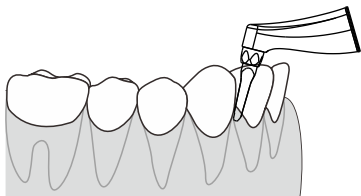

Figure 10 Periodontal sandblasting operation
- When using the device to perform normal periodontal scaling, it is recommended to use the nozzle to remove the plaque from the periodontal pocket of 1~3mm below the gingival, and perform up and down lifting and scaling during use. (See Figure 10)